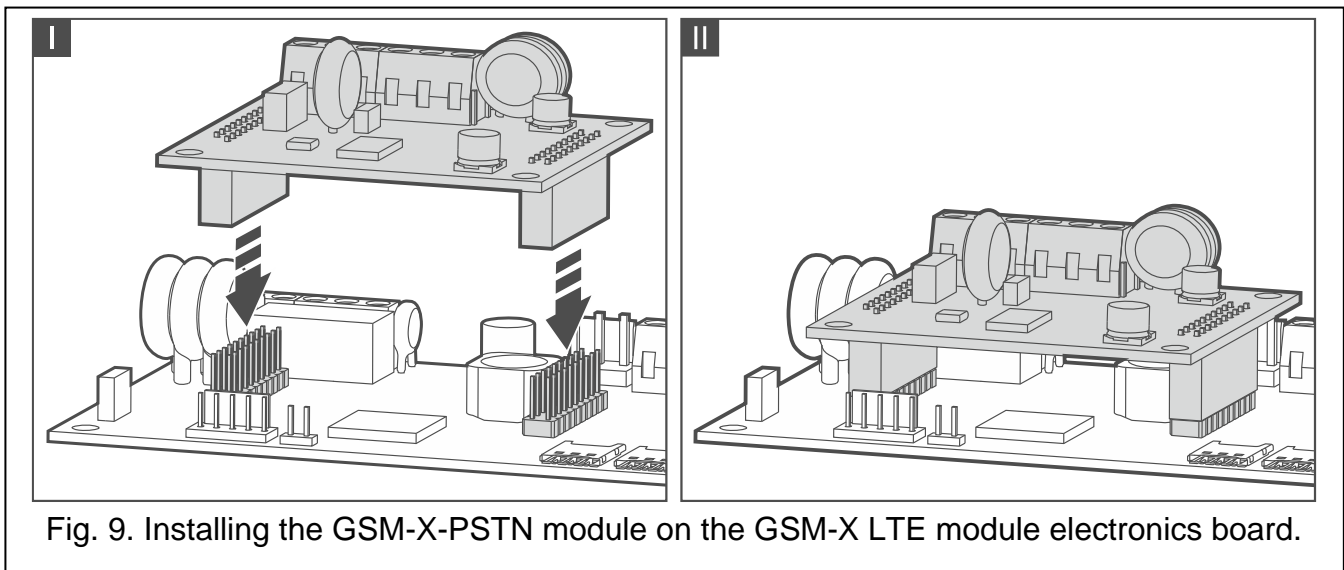

Fig. 9. Installing the GSM-X-PSTN module on the GSM-X LTE module electronics board.
3. Install the GSM-X-PSTN module in the connectors on the GSM-X LTE module electronics board (Fig. 9).